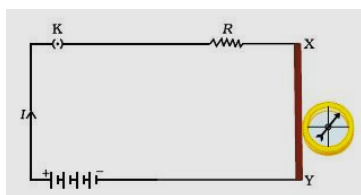

Figure 1: compass needle is deflected when it is placed near a current carrying wire
- First take a straight thick copper wire and place it between the points X and Y in an electric circuit, as shown in Fig. 1.